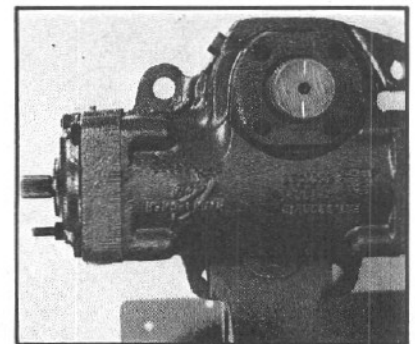

Figure 34
1. Position the gear in a vise with the gear's worm shaft/input shaft (17) in a horizontal direction. Rotate the worm shaft to position the timing mark on the sector shaft halfway between two trunnion cover bolts and pointing up. (FIG. 34).